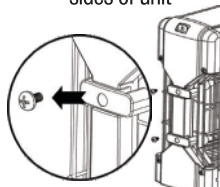

Figure 3
2. Unscrew Safety Clips on side of unit to release grill (Figure 3).